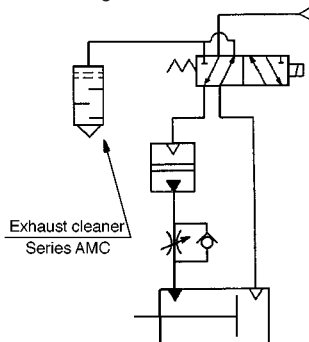

Figure 6
- Leakage associated with the sliding movement inevitably occurs. In particular, with the single side hydro unit, the operating oil that leaks to the pneumatic side will be discharged from the switching valve, thus soiling the switching valve. Thus, install an exhaust cleaner (AMC Series). (Fig.6)